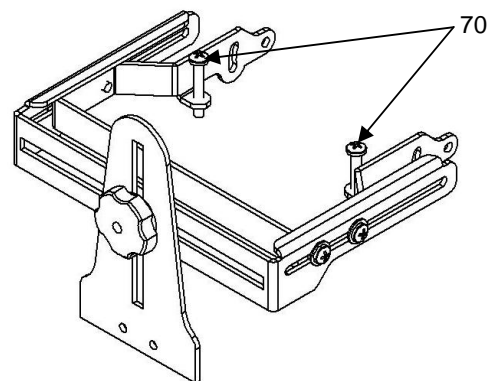

Figure 6. Install Angle Adjustment screws
8. Find two 1-1/4" Phillips screws (70) in the parts bag.
NOTE: Stop threading each screw (70) when the end protrudes through the bracket hole approximately 1/4" as shown in Figure 6.
9. Install two screws (70) in the threaded tabs on the NAV-1. See Figure 6.